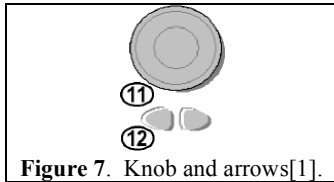
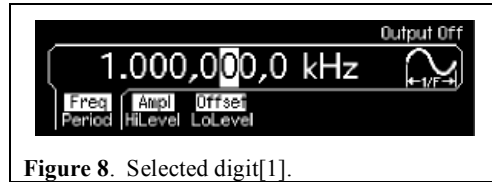

Figure 7. Knob and arrows[1].
Figure 8. Selected digit[1].
2. Select the digit to alter by using the arrow buttons (marked 12 in Figure 7). The selected digit will be displayed as a black number on a white background as in Figure 8.